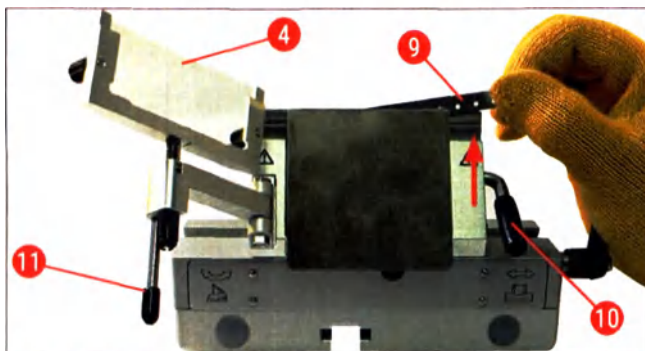

Fig. 35
2. Open the clamping lever (→ Fig. 35-10) by turning it counterclockwise (→ "Fig. 35").